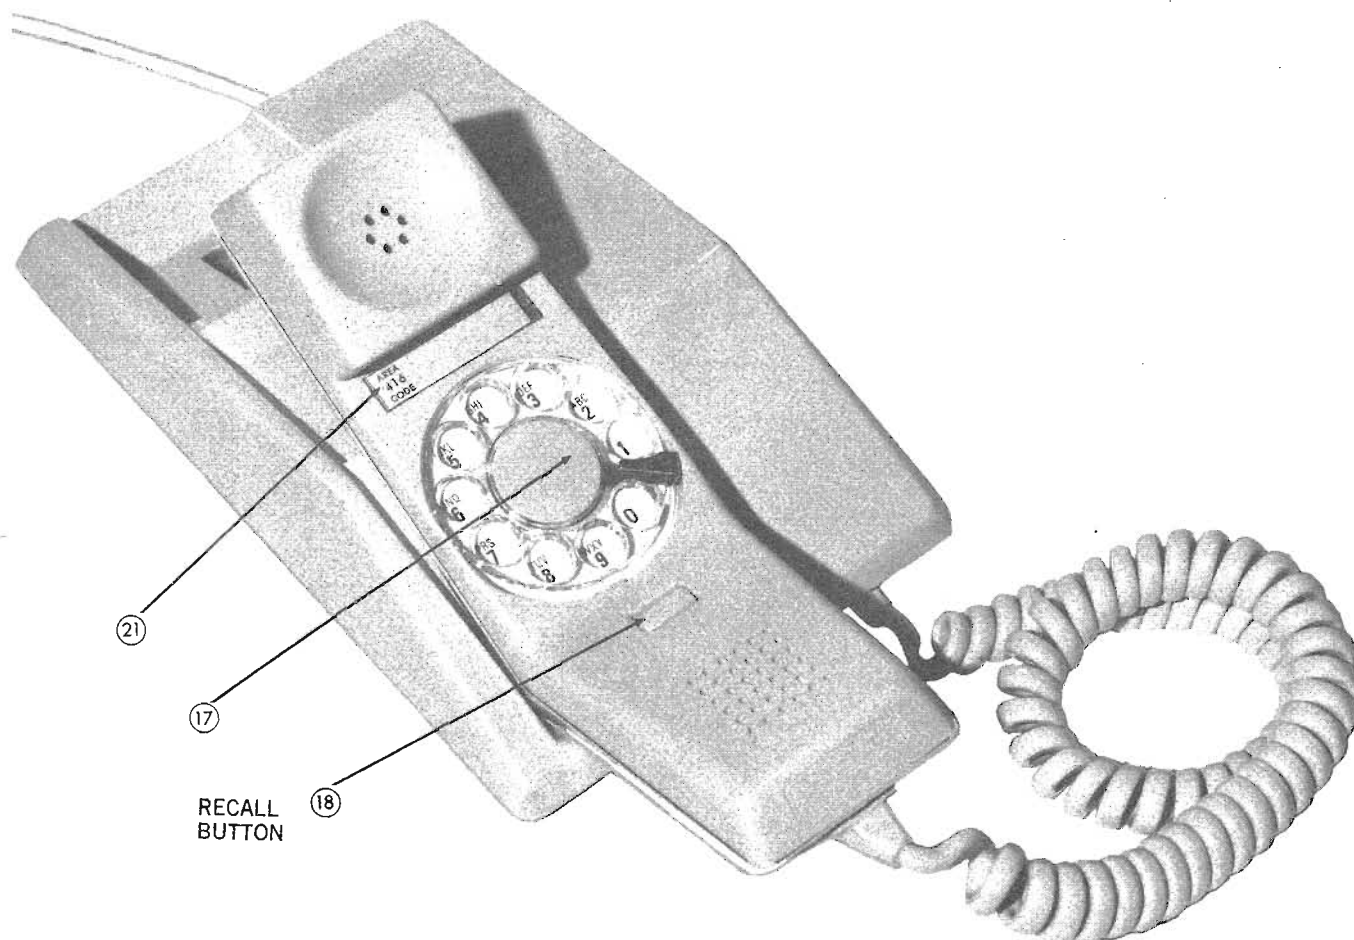

Fig. 1 — Desk Mounted "Off-Hook" Position QSK100AX
**2.01** The QSK100AX, a two-piece telephone set (Fig. 1), consisting of base and handset is a combined desk-wall-type telephone. When used as a desk-type telephone, it rests on the feet provided in the base of the set. When used as a wall-type set, it is mounted using the mounting holes in the baseplate.